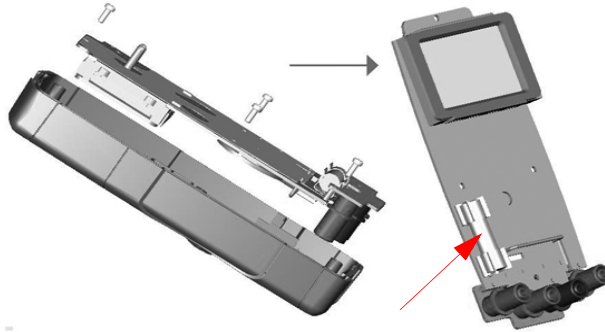

Figure 4-11 Fuse 2 replacement
- 5 If you want to replace a defective Fuse 2, remove Fuse 1 then loosen the four screws (shown in Figure 4-11) to lift and remove the circuit board from top case.
- 6 Gently remove the defective Fuse 2 by prying one end of the fuse loose and removing it out of the fuse bracket, see Figure 4-11.